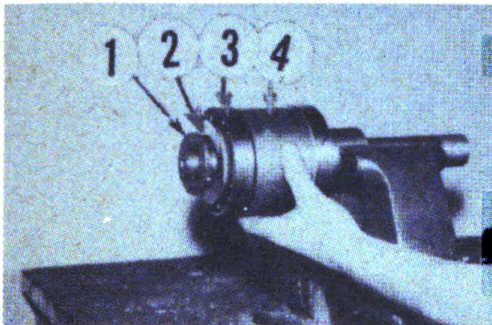

Figure 6. REMOVING TIMKEN CONE,
2. Put bearing spacer (4), Timken cup (3), Timken cone (2), and inner cut washer (1) on idler stud. See Figure 6.